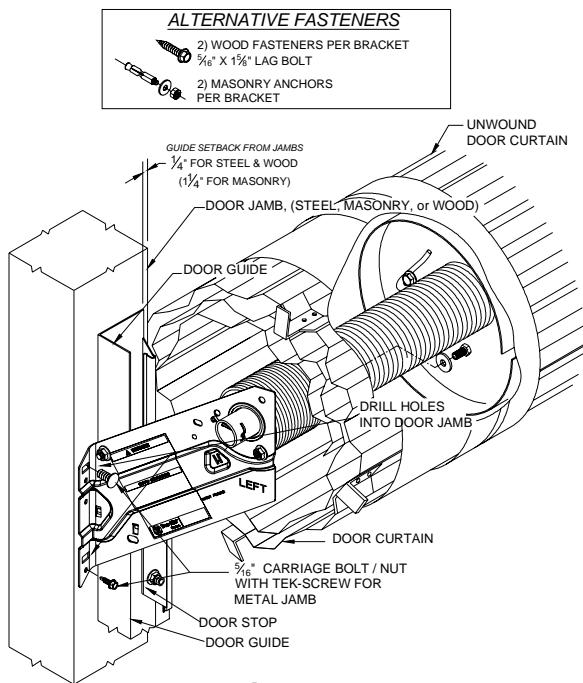

Figure 6.
5.2 Center the door in the opening with the door brackets perpendicular to the mounting surface and guides setback 1/4" from edge of opening (1 1/4" for masonry). For steel jambs, drill a 3/8" diameter hole through the top slot in the door bracket, into the door jamb. For masonry jambs, drill 5/16" holes through both slots. For wood jambs, drill 1/8" holes through both slots. Verify the fastener size before drilling. See Figure 6.